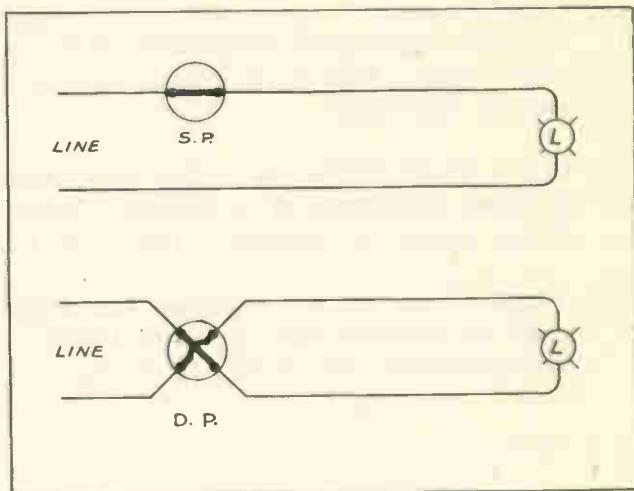

Fig. 2
2. Use - double-pole switches are normally used to open both wires to a light or device and thus break all connections from it to the line, Fig. 2.